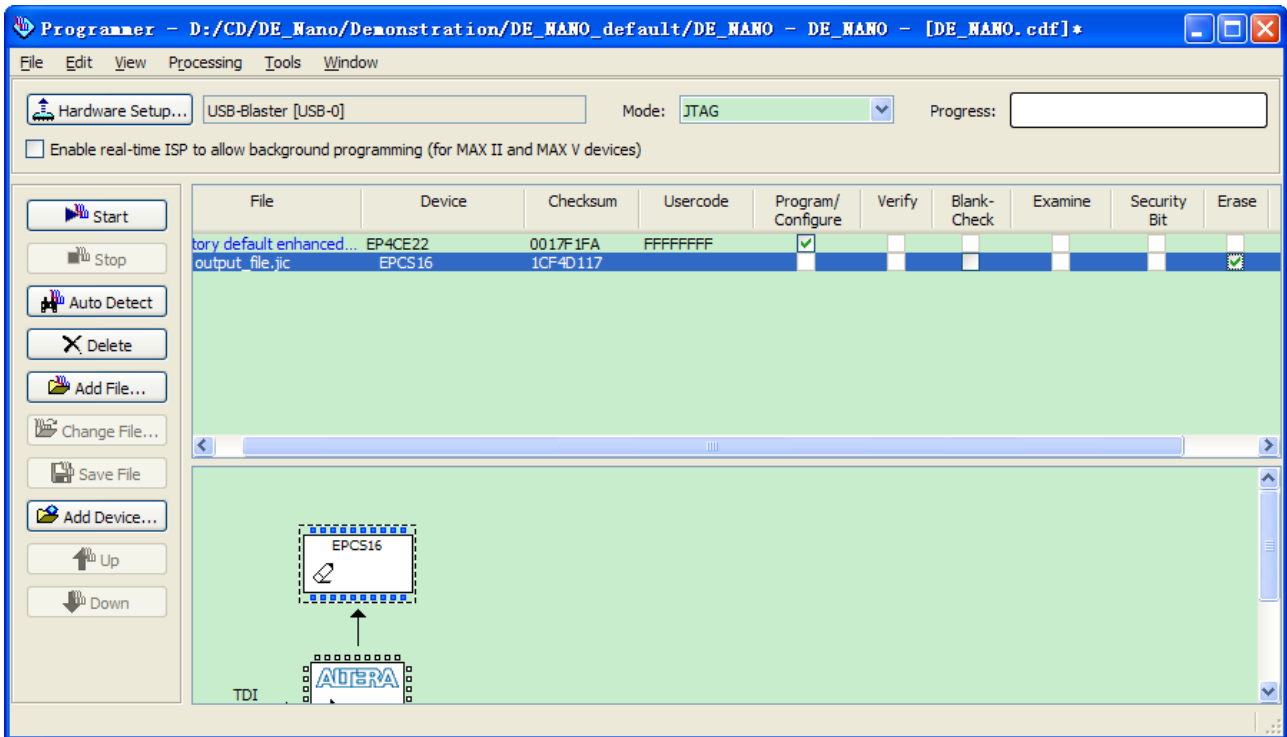

Figure A7 Erasing setting in Quartus II programmer window
4. Erase the serial configuration device by checking the corresponding **Erase** box, a Factory default SFL image will be load (See Figure A7).